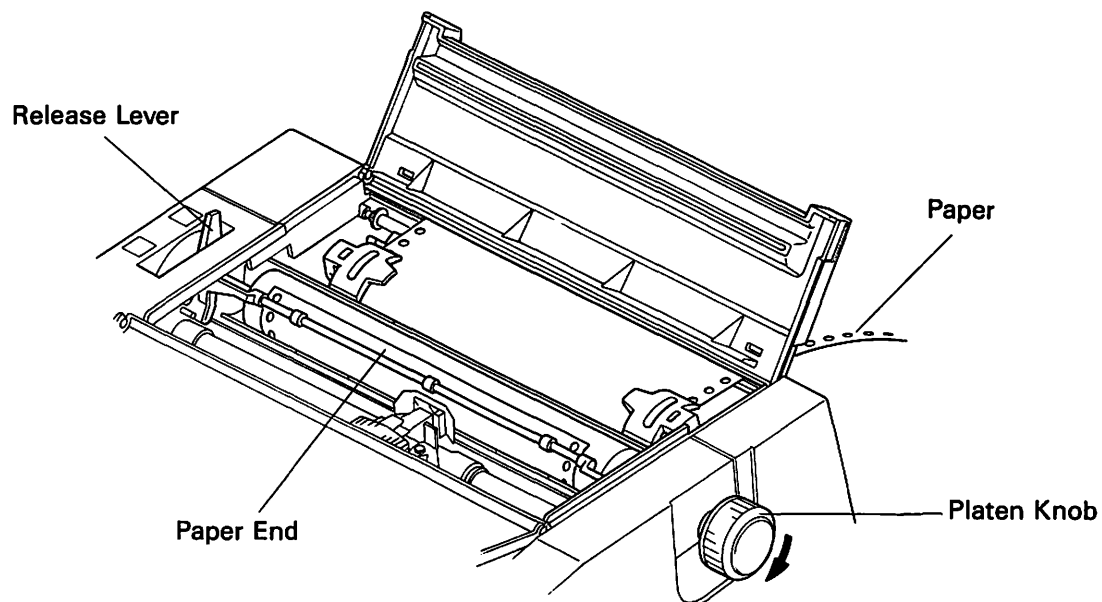

Fig. 2-7
- 6) Push down the paper retainers of the sprocket tractors. Turn the platen knob clockwise until the paper end comes out on the platen. Push back the paper bail to hold the paper against the platen and push the release lever to the rear to the "Pin Feed" position. (See Fig. 2-7)